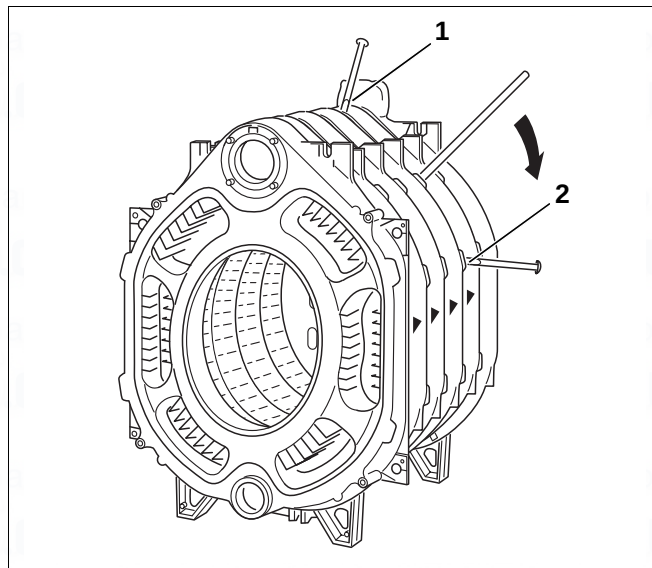

Fig. 22 Separating the boiler block
- ▶ Separate the boiler at the leak location by driving (knocking) in flat wedges or chisels between the sections at the designated points (Fig. 22, [1] and [2]) at the top and bottom.